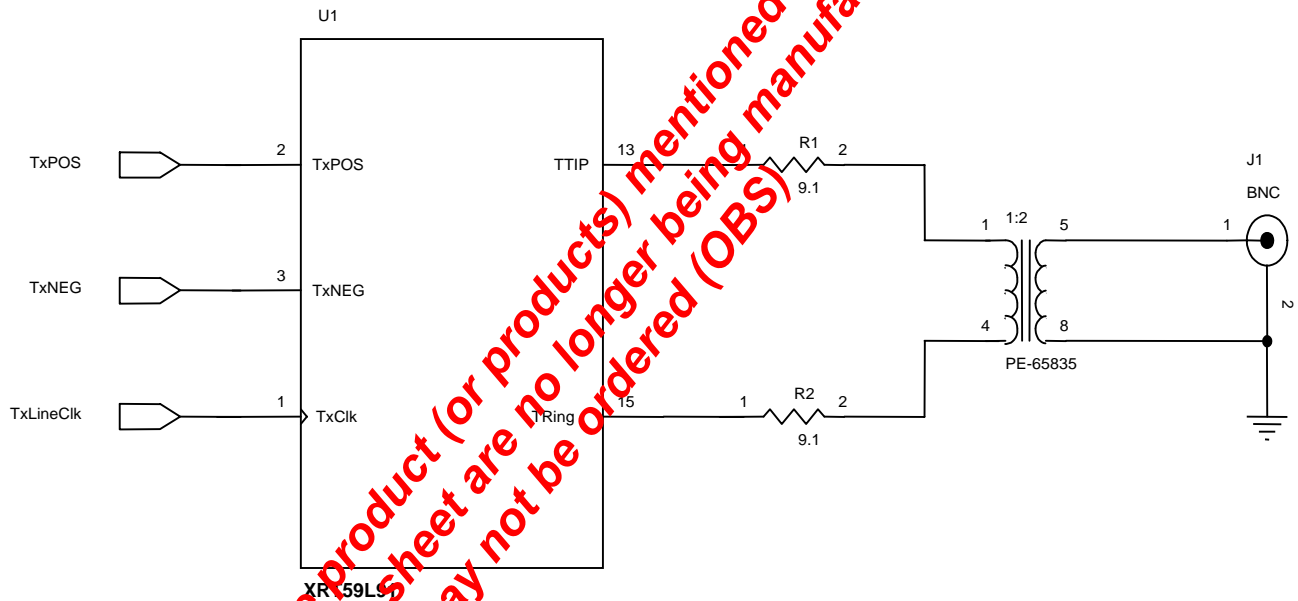

Figure 5. Illustration of how to interface the Transmit Section of the XRT59L91 device to the Line (for “75Ω” Applications)
In both applications (e.g., 75Ω or 120Ω), the user is advised to interface the Transmitter to the Line, in the manner as depicted in Figures 5 and 6, respectively.
1. Figures 5 and 6 indicate that for both “75 Ω and “120 Ω applications, the user should connect a 9.1 Ω resistor, in series, between the TTIP/TRing outputs and the transformers.
2. Figure 5 and 6 indicate that the user should use a “1:2 STEP-UP” Transformer.